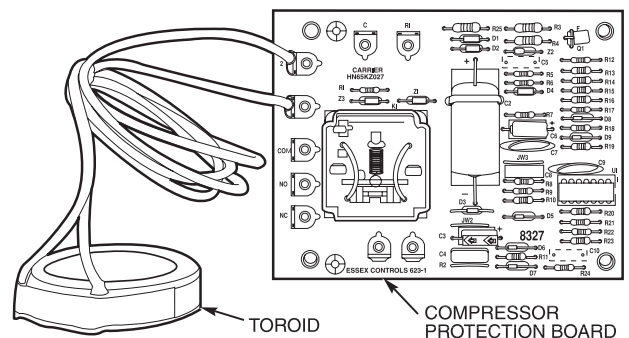

Fig. 13 — Compressor Protection Control System Module
Compressor Protection Control System (CPCS) or Control Relay (CR) — Each compressor has its own CPCS module or CR. See Fig. 13 for CPCS module. The CPCS or CR is used to control and protect the compressors and crankcase heaters. The CPCS and CR provide the following functions: